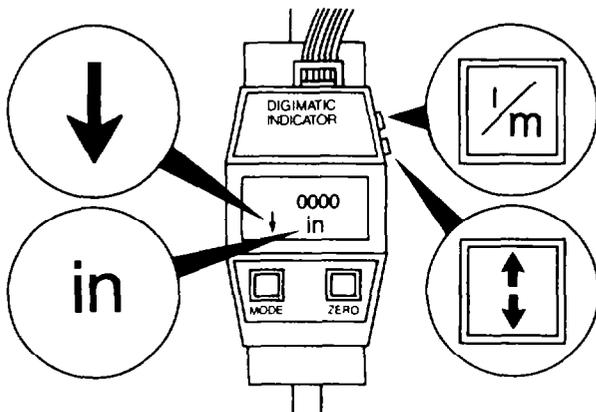

Figure 119 — Digimatic Indicator — Setting
- f. Push the I/M (inch/millimeter) selector button on the digimatic indicator so that the in. symbol is shown, then push the \uparrow/\downarrow (up/down) selector button so that \downarrow is shown (see Fig. 119).